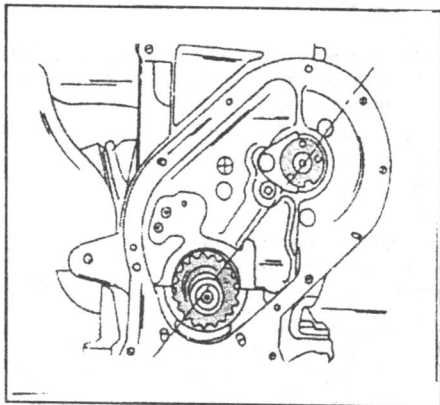

Fig. 1.73. — Rotate the crankshaft and the camshaft until the two timing marks are aligned as shown.
- Rotate the crankshaft and the camshaft until the timing marks are aligned as shown in Fig. 1.73.